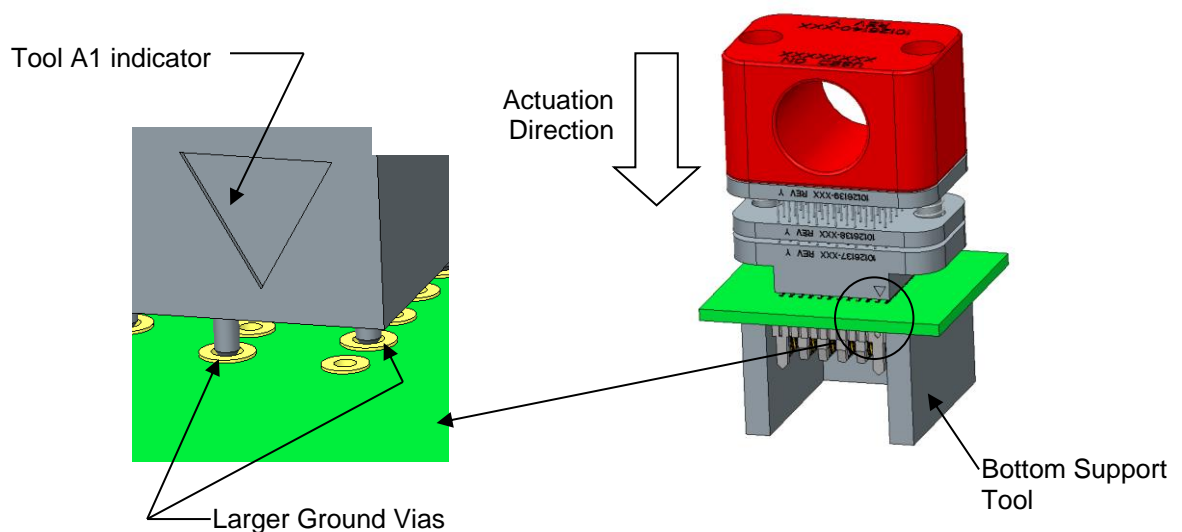

Figure 35: Removal Tool Procedure
- With the connector to be removed facing downward, place the board assembly over a bottom support tool (not included) that is appropriate for the board layout (see figure 35).